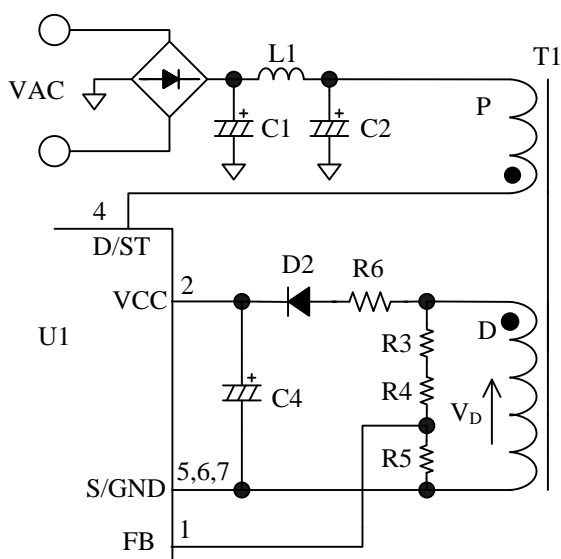
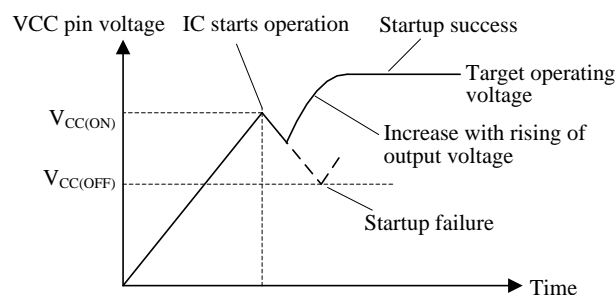

Figure 10-1 VCC pin peripheral circuit
Figure 10-3 VCC pin voltage during startup period
Figure 10-1 shows the VCC pin peripheral circuit.
Figure 10-3 shows VCC voltage behavior during the startup period. When VCC pin voltage increases to  $V_{\text{CC(ON)}} = 15.0 \text{ V}$  at startup, the IC starts the operation. Then circuit current increases and VCC pin voltage decreases. Since the Operation Stop Voltage  $V_{\text{CC(OFF)}} = 8.1 \text{ V}$  is low, the auxiliary winding voltage reaches to setting value before VCC pin voltage decreases to  $V_{\text{CC(OFF)}}$ . Thus control circuit continues the operation. The voltage from the auxiliary winding D in Figure 10-1 becomes a power source to the control circuit in operation. The approximate value of auxiliary winding voltage is about 12 V to 16 V, taking account of the winding turns of D winding so that VCC pin voltage satisfies Equation (2) within the specification of input and output voltage variation of power supply.
When  $V_{CC}$  pin voltage reaches to  $V_{CC(OFF)}$  and a startup failure occurs as shown in Figure 10-3, increase the C4 value. Since the larger capacitance causes the longer startup time of IC, it is necessary to check and adjust the startup process based on actual operation in the application.